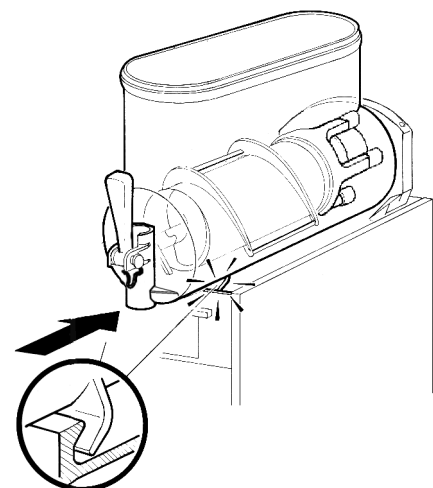

figure 14
- 7 Push the bowl towards the rear wall of the unit until it fits snugly around the gasket and its front fastening hooks are properly engaged (see figure 14).